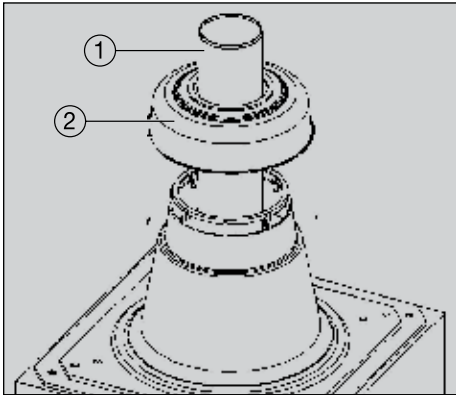

Figure 13, Installing Termination Pieces
18. Install the metallic termination pipe (see 1, **Figure 13**). Assemble the shaft vent cap (see 2, **Figure 13**).